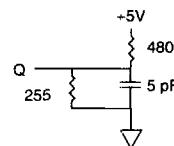

Fig. 2 OUTPUT LOAD EQUIVALENT
- $t_{LZCE}$ ,  $t_{LZOE}$ ,  $t_{LZWE}$ ,  $t_{HZCE}$ ,  $t_{HZOE}$  and  $t_{HZWE}$  are specified with  $C_L = 5$  pF as in Fig. 2. Transition is measured  $\pm 200$ mV typical from steady state voltage, allowing for actual tester RC time constant.